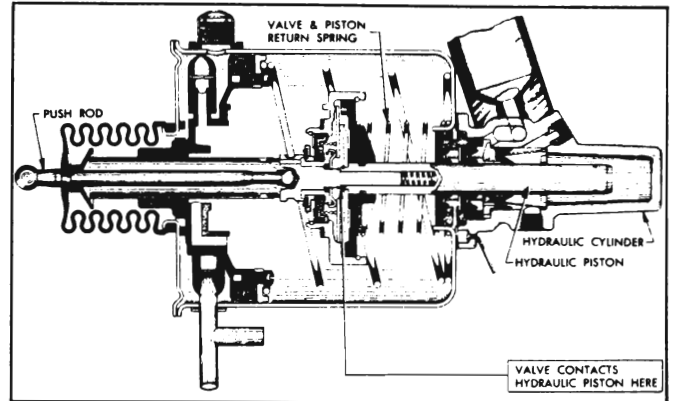

Figure 9-17—Manual Application
(6) *Manual Application.* When the engine is not running and reserve vacuum is exhausted, the brakes are applied entirely by foot pressure on the brake pedal. As the pedal is depressed, a shoulder on the air valve pushes against the end of the hydraulic piston so that pedal pressure is applied directly to the piston to force it into the hydraulic cylinder. As the valve and hydraulic piston assembly moves rearward, the power piston remains in the unapplied position, where it is held against its stop by its return spring. See figure 9-17.